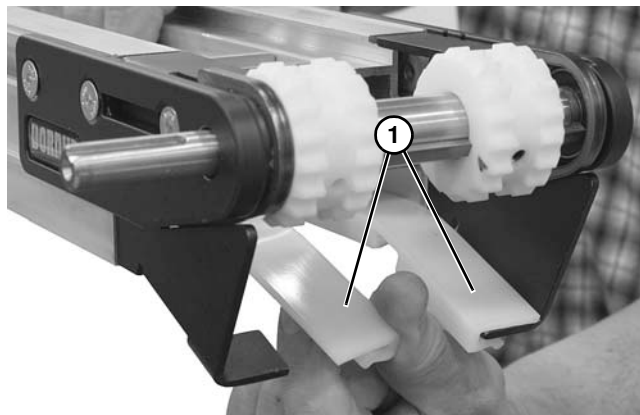

Figure 48
3. Remove lower wear strips (**Figure 48, item 1**) from end drive.